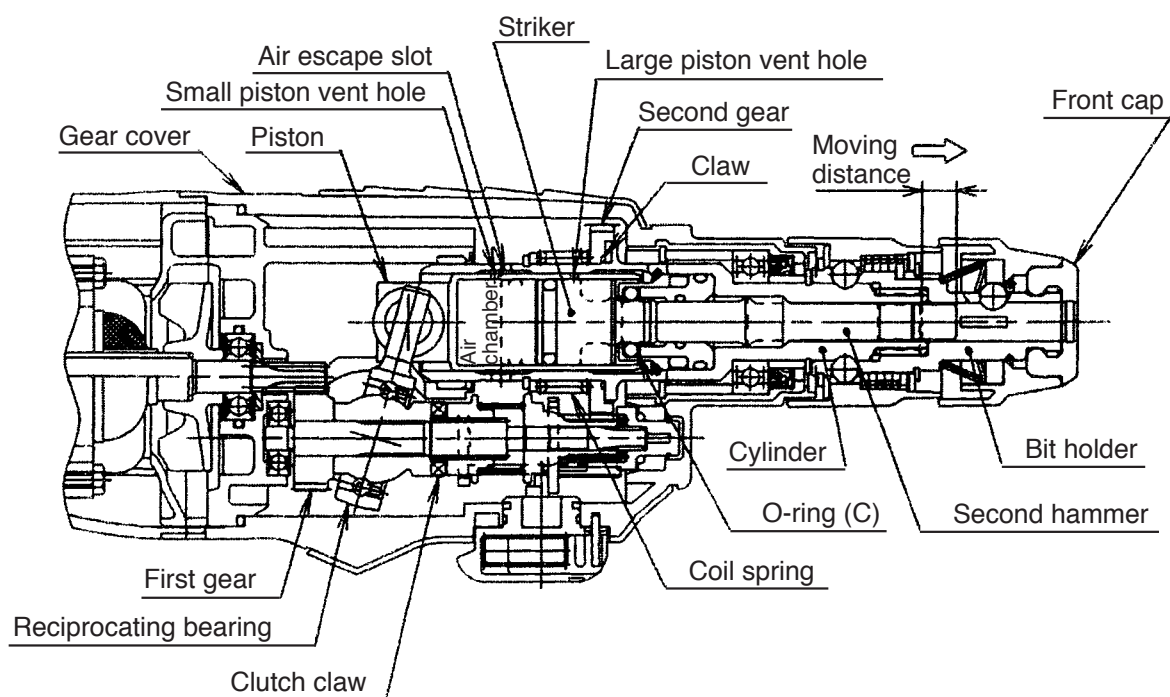

Fig. 4
The idle hammering prevention mechanism in the Model DH 24PM is different from that of conventional rotary hammers. When the drill bit is lifted from the work surface on completion of drilling, the second hammer moves to the position indicated by the continuous lines in Fig. 4 and the protruding (lip) portion at the tip of the striker is gripped by O-ring (C) mounted between the hammer holder and the damper holder. In this state, should the piston continue to move so that the small piston vent hole is blocked by the inner wall of the cylinder, the air in the air chamber will pass through the large piston vent hole and be released through the air-escape slot and large cylinder vent hole provided on the inner wall of the cylinder. Accordingly, there is no change in the air pressure within the air chamber, and movement of the striker (idle hammering operation) is prevented. The gripping force of O-ring (C) on the striker is so small in comparison with the conventional mouth system that practically no pressing force at all is required to restart the hammering operation.